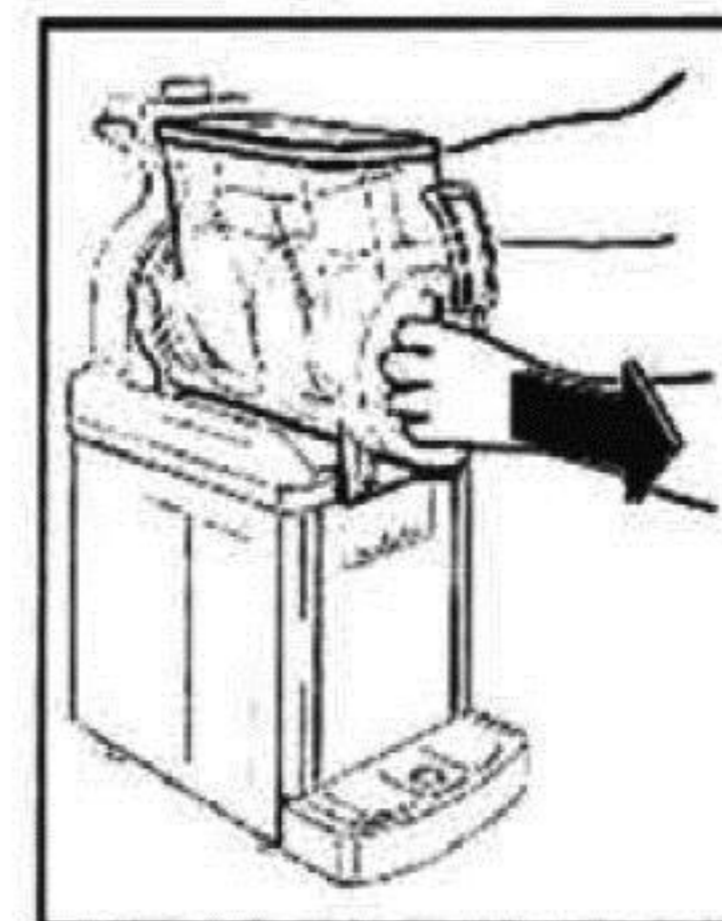

fig.30
- Pull the tank outward, as shown, to completely remove it from its seat (fig.30).